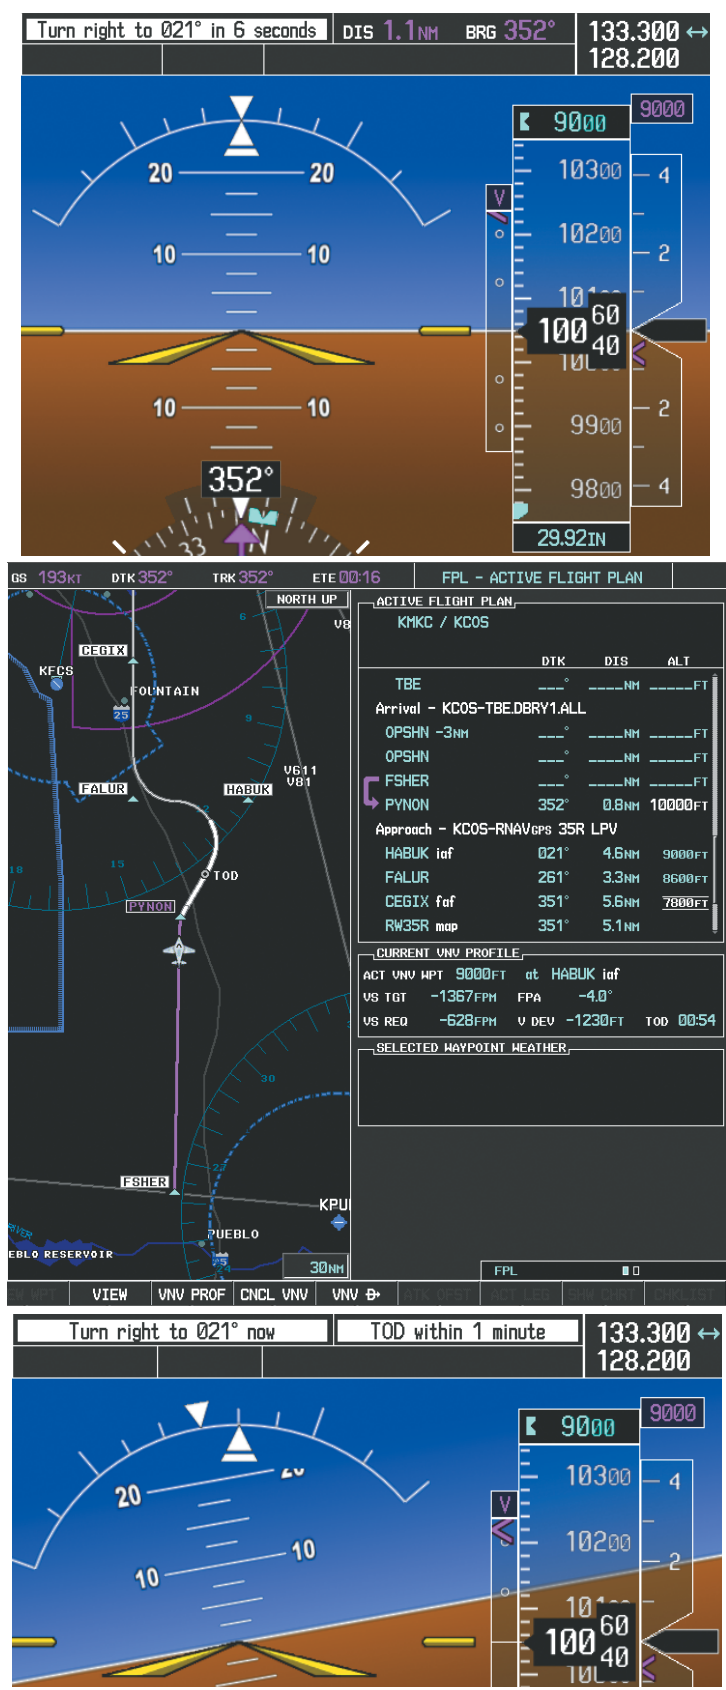

Figure 5-144 Approaching PYNON
- 20) The flight continues through the arrival procedure to PYNON (see Figure 5-144). At a point 31 nm from the destination airport, the phase of flight scaling for the CDI changes to Terminal Mode and is annunciated by displaying 'TERM' on the HSI.